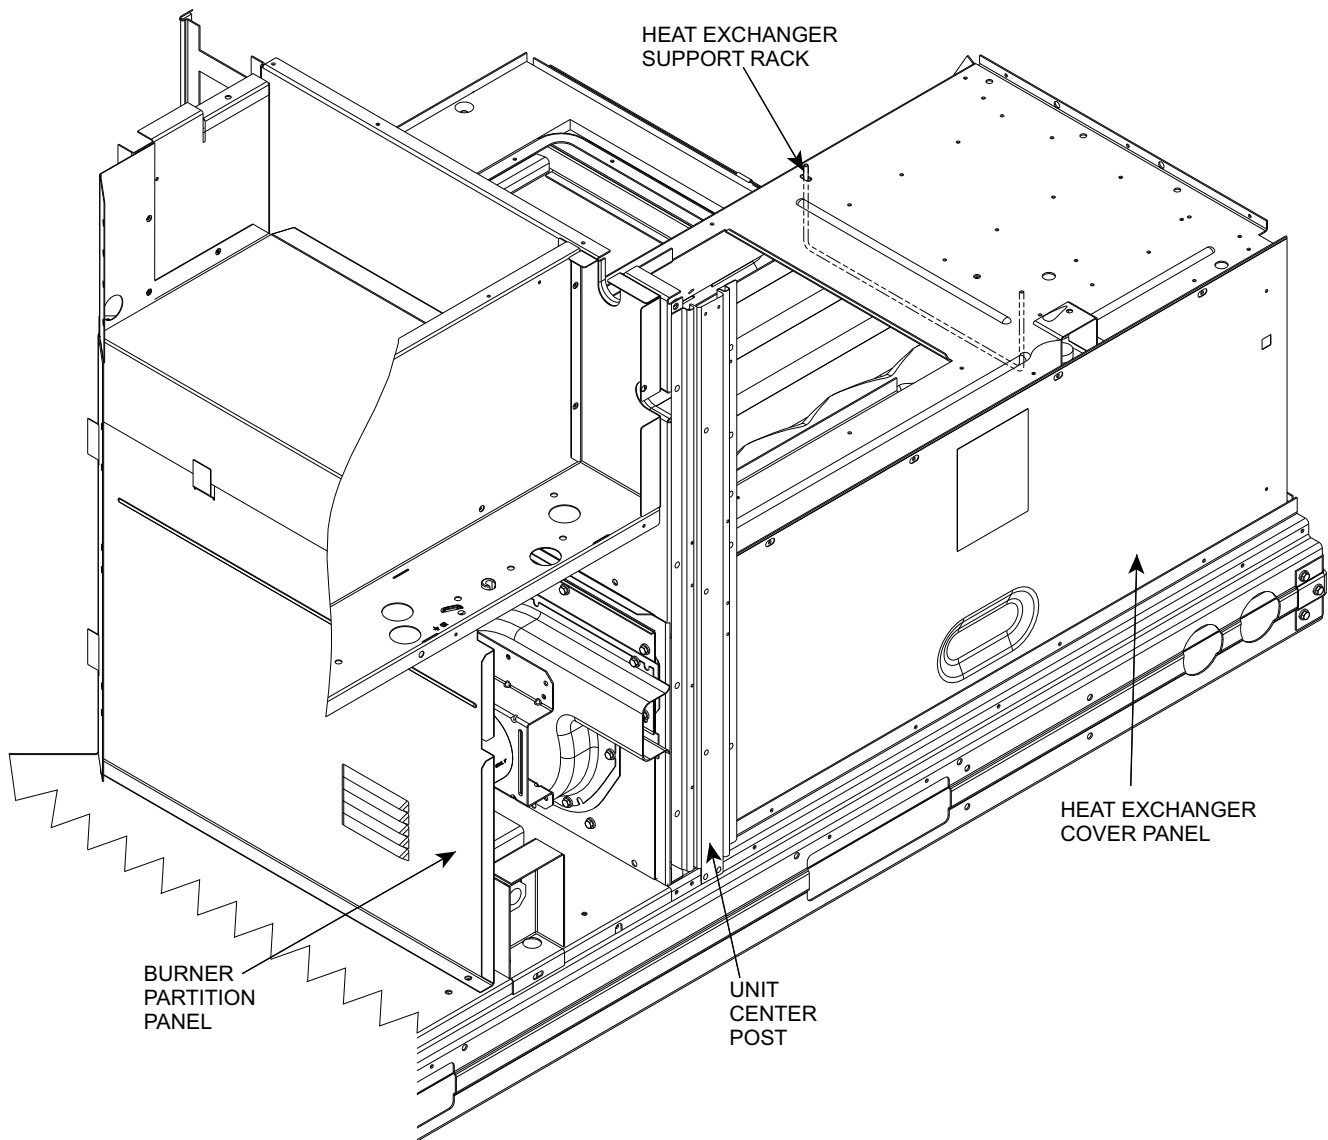

Fig. 51 — Heat Exchanger Access - Internal Panels, Center Post, and HX Rack Locations
To access burner section, slide the sliding burner partition out of the unit (see Fig. 51).
5. Remove the screw at the base of the burner partition panel (see Fig. 51) and slide out the panel.